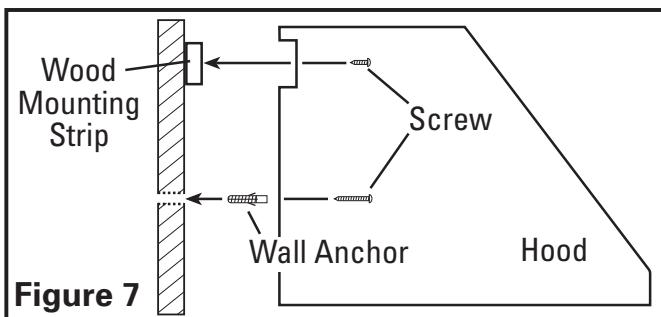

Figure 7
- Rest the cavity on the back side of the hood on the wood strip and mark drilling locations on the wall for wall anchors on the bottom rear of the hood. Remove hood and install wall anchors (Figure 7).
- Rest the cavity on the back side of the hood on the wood strip and secure hood to wood strip with the included 3/4" screws through the holes in the back of the hood that line up with the wood strip (use 6 screws for 30" and 36" widths and 8 screws for larger widths) Secure the bottom of the hood by installing the screws provided into the wall anchors. (Figure 7).